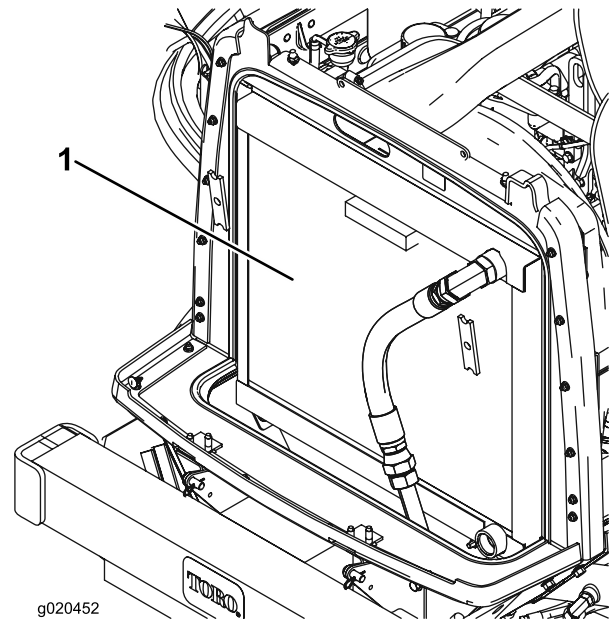

Figure 68
3. Clean both sides of the radiator/oil cooler area thoroughly with compressed air (Figure 68).